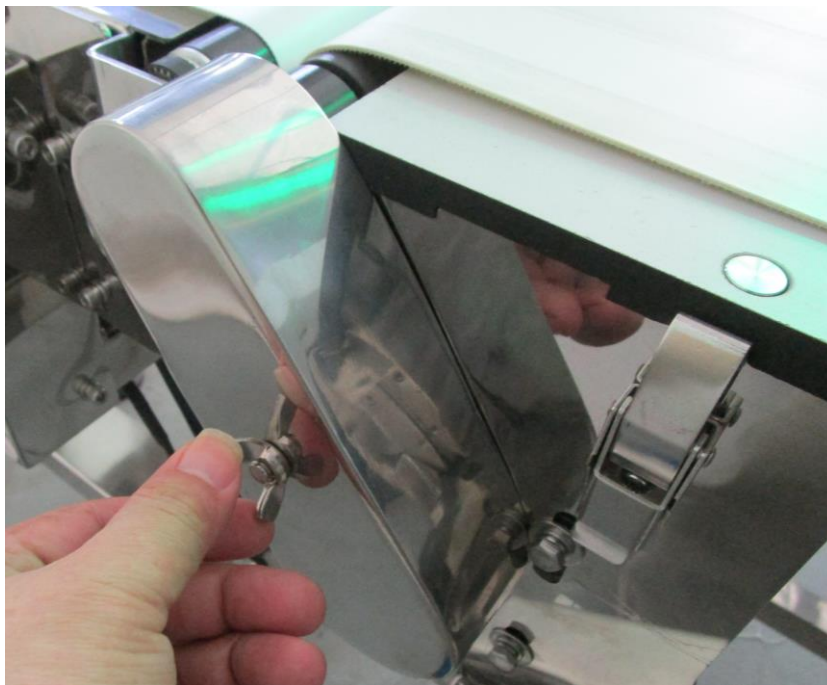

Figure 4-9 Remove the timing belt cover
1) Remove the synchronous belt cover on the side of the conveyor (Figure 4-9), and keep the removed cover and fixing screws.